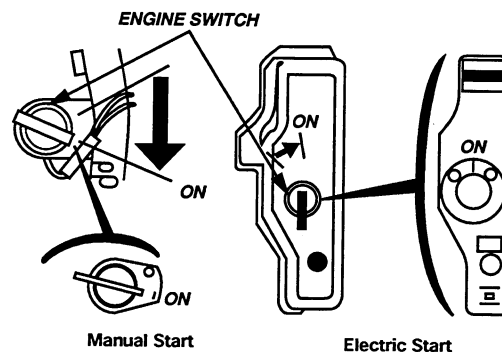

FIGURE 4-4. ON/STOP SWITCH
**On/Stop Switch (Manual Start Models):** Allows starting with recoil when the switch is in the On position. Stops engine operation when turned to the Stop position. Refer to Fig 4-4.
**Start/On/Stop Switch (Electric Start Models):** Turning key switch to the Start position begins engine cranking. When engine starts, release the switch and it will return to the On position. To stop the engine, turn the switch to the Stop position. Refer to Fig 4-4.